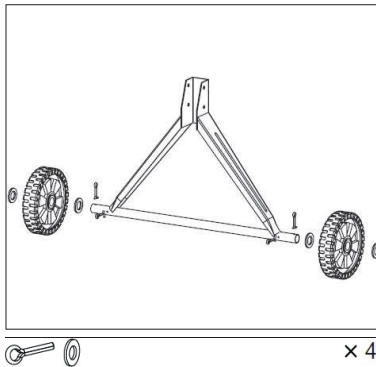

Fig.5
2. Then fit the wheel unit to the wheel axle. Assemble a washer to the left and right of each wheel. The wheels are then secured with a safety pin (Fig. 5).